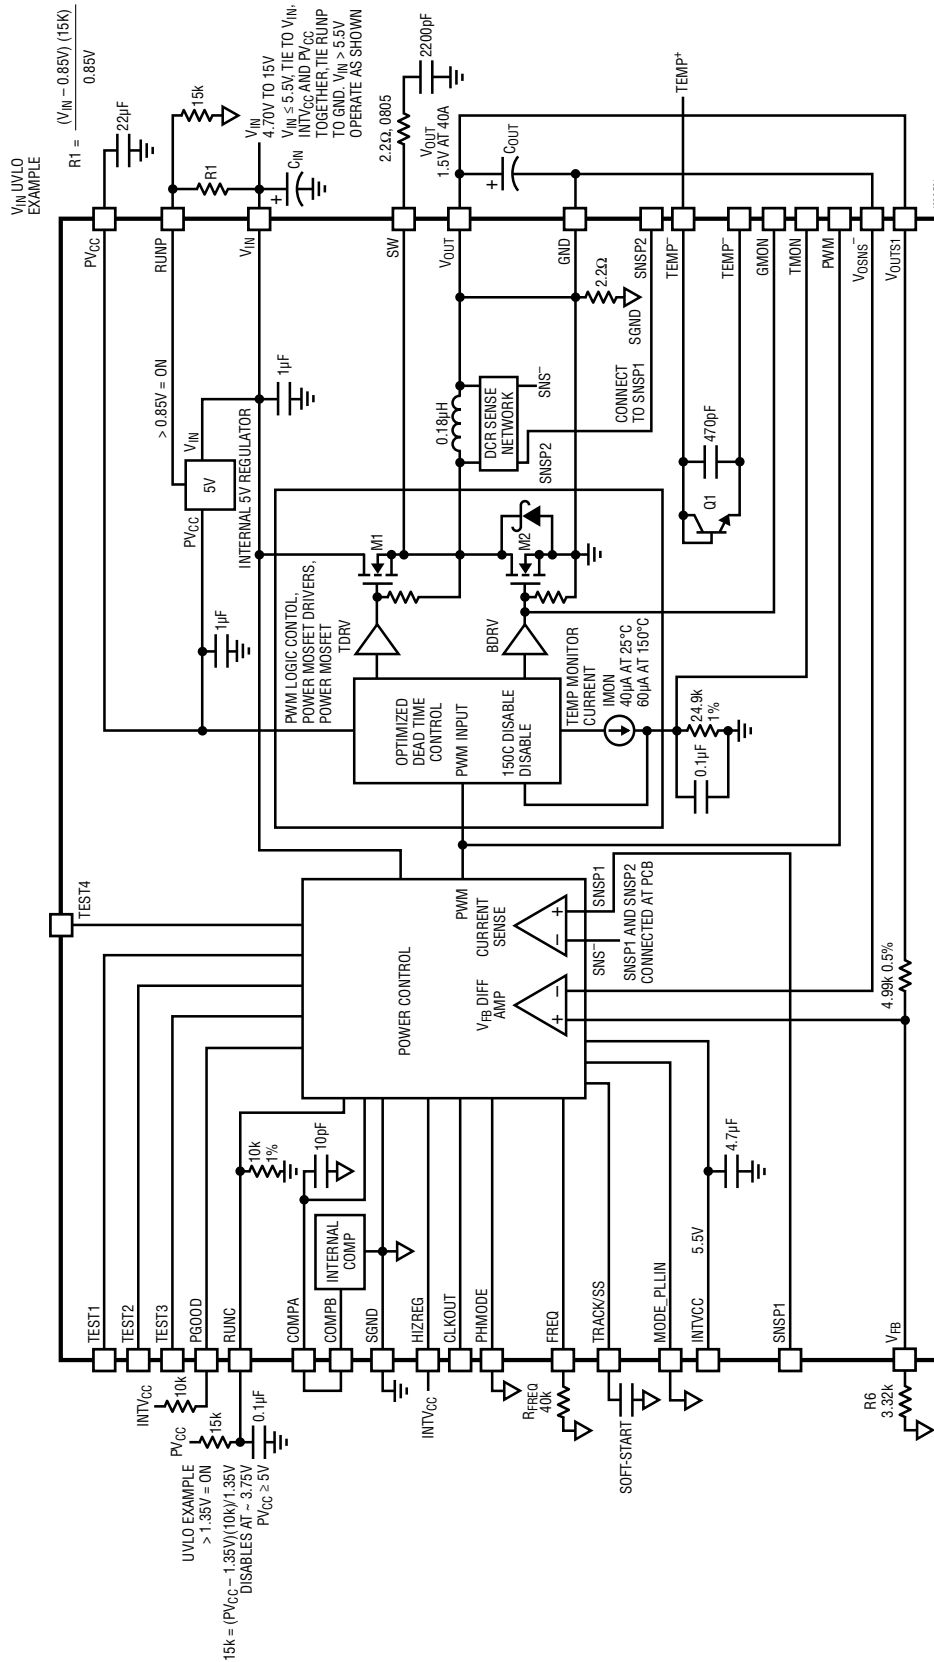

Figure 1. Simplified LTM4636 Block Diagram
**RUNC (E2):** Run Control Pin. A voltage above 1.35V will turn on the control section of the module. A 10k resistor to ground is internal to the module for setting the RUN pin threshold with a resistor to 5V, and allowing a pull-up resistor to PVCC for enabling the device. See Figure 1 Block Diagram.
**RUNP (G8):** This pin enables the PVCC supply. This pin can be connected to VIN, or tie to ground when connecting PVCC to  $V_{IN} \leq 5.5V$ . RUNP needs to sequence up before RUNC. A 15k resistor from PVCC to RUNC with a 0.1μF capacitor will provide enough delay. In parallel operation with multiple LTM4636s, the resistor can be reduced in value by N times and the 0.1μF can be increased N times. See Applications Information section. RUNP can be used to set the minimum UVLO with a voltage divider. See Figure 1.
## DECOUPLING REQUIREMENTS $T_A = 25^\circ\text{C}$ . Use Figure 1 configuration.